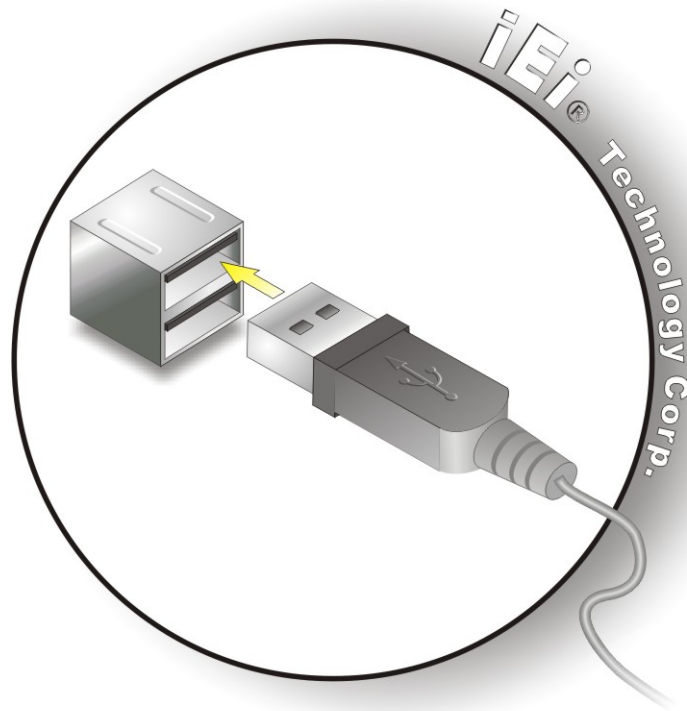

Figure 3-19: USB Connector
Step 2: Insert a USB Series "A" plug. Insert the USB Series "A" plug of a device into the USB Series "A" receptacle on the external peripheral interface. See **Figure 3-19**.